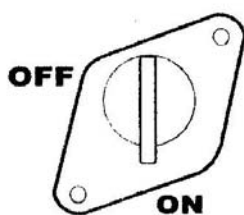

Figure 6- Fuel Valve in the “on” position
3. Turn the fuel valve to the "on" position (see figure 6).